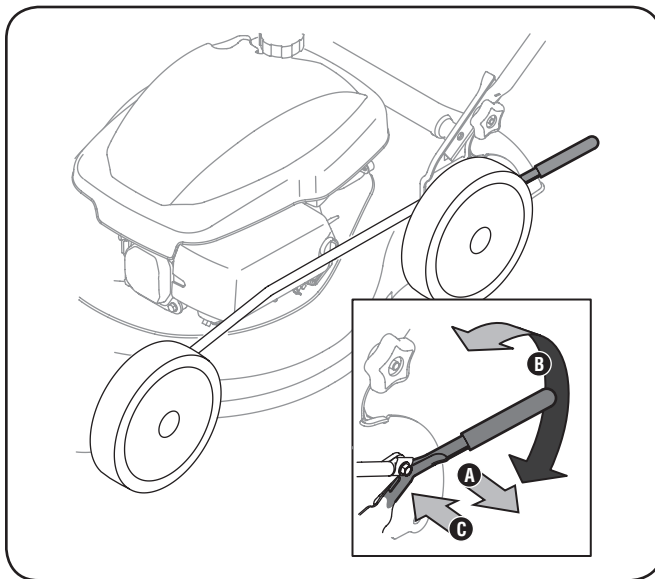

Figure 3-8
1. The cutting height adjustment lever is located above the rear left wheel. See Fig. 3-8.